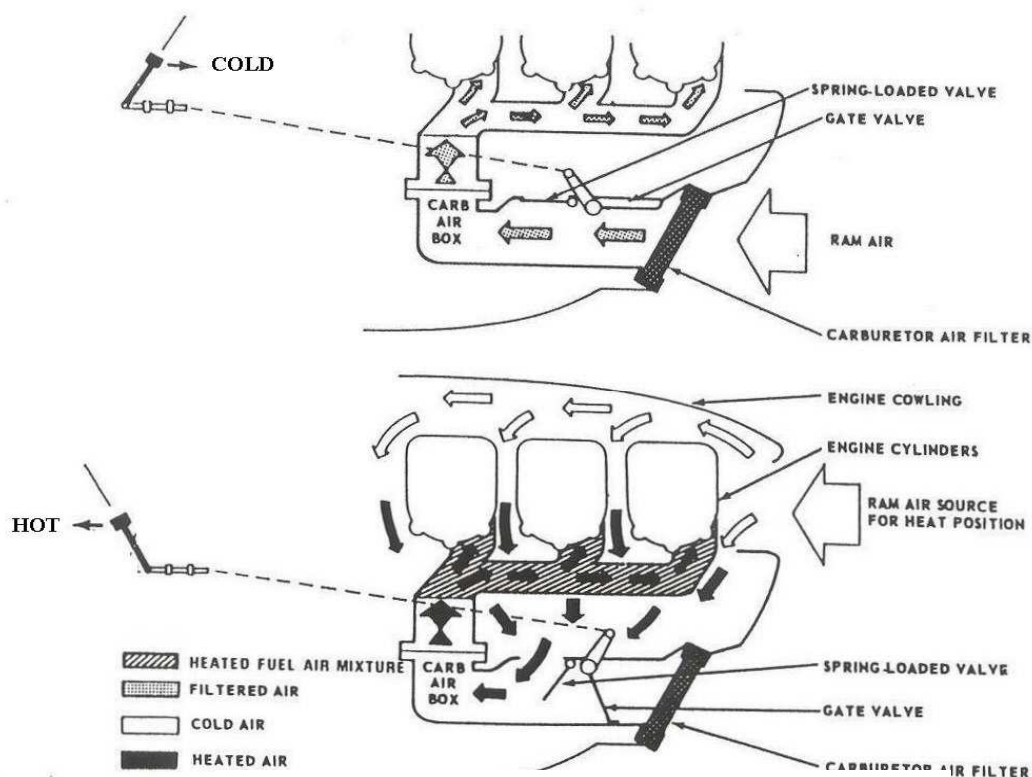

Figure 1-7 Air Induction System
31. The carburettor heat lever is the inboard lever on each quadrant. The carburettor heat positions are labelled COLD (forward) and HOT (aft). When the lever is in the COLD position, cold air is admitted to the carburettor through the air intake scoop and air filter on the front lower side of the cowl. When the lever is moved to the HOT position, a gate valve closes off the cold-air intake opening from the carburettor. With the gate valve closed, a partial vacuum is created in the carburettor air box, causing a spring-loaded valve to automatically open, thereby admitting unfiltered hot air from around the cylinders to the carburettor. If the engine should backfire when the lever is in the HOT position, the spring-loaded valve in the carburettor air box will automatically close, causing the gate valve to be forced slightly open, allowing the backfire gases to escape past the gate valve and through the carburettor air filter. Figure 1-7 illustrates system operation.